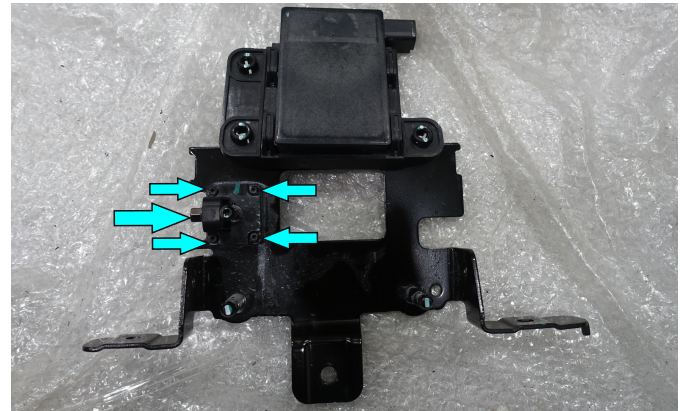

Fig.62
60. Remove radar from factory bracket, and after that the adjusting mechanism (fig.62). ***Set aside for re-use later on.**